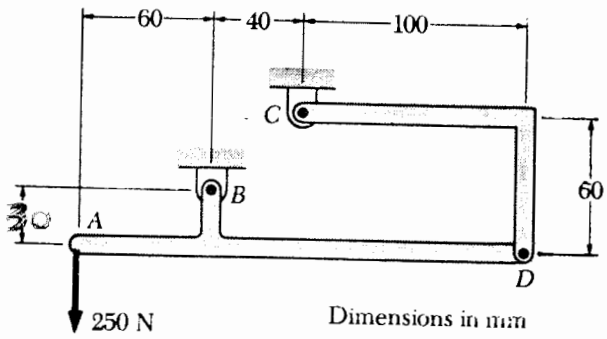

Fig. P1
- 1) Determine the reactions at B and C in Fig. P1 shown. [Secs. 5.1-5.4](15 pts.)